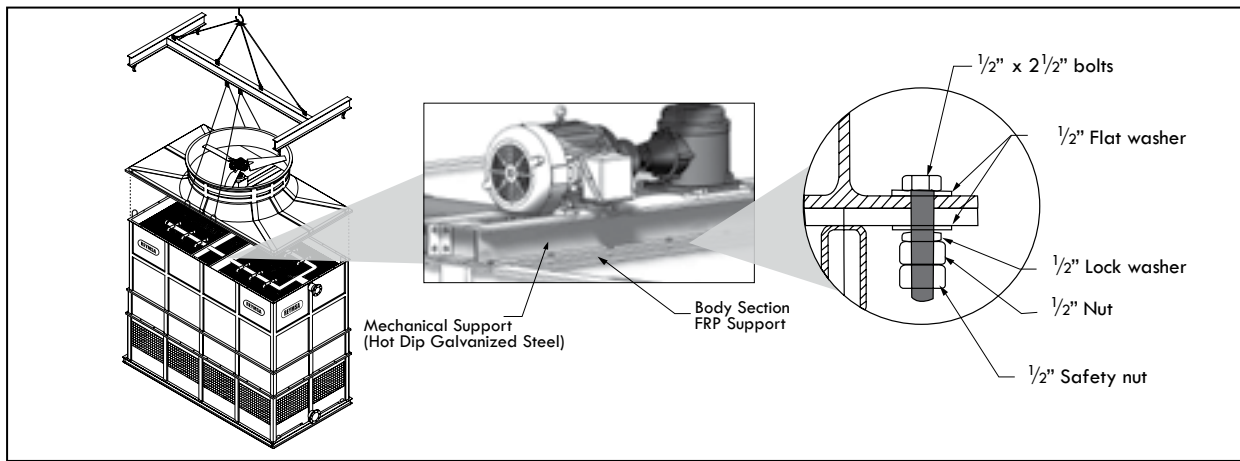

Figure A-51: Fan Deck assembly for an RTG and RTGTC model.
- N.** RTG and RTGTC models have a section called "Fan Deck" which is at the top of the Tower. The Fan Deck with duct contains a gear drive, a fan and a motor mounted on a structural Hot Dip Galvanized Steel support with an "I" shape configuration, and a corrosion resistant safety screen mesh. (See Figure A-51).
- S.** After installing the fan deck section, access to inside of the fan deck section and bolt down the Galvanized Steel mechanical support to the Fiberglass (FRP) support (see Figure A-51). The Galvanized Steel mechanical support is built in an "I" shaped configuration and this mechanical support must be bolted to the Fiberglass (FRP) support in the upper section on which it sets. The bolts must be installed on the full perimeter of the "I" shaped mechanical support. Access to perform this assembly inside the tower through the fan guard access door.